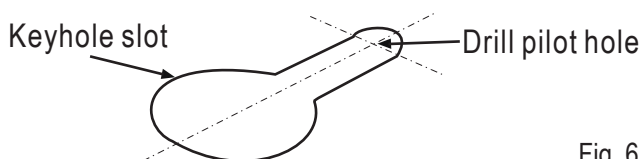

Fig. 6
7. Lift the range hood up under cabinet and determine final position. Mark the location of the four keyhole mounting slots. Set range hood aside on a protected surface (figure 6). Drill 4 pilot holes in the marked positions.